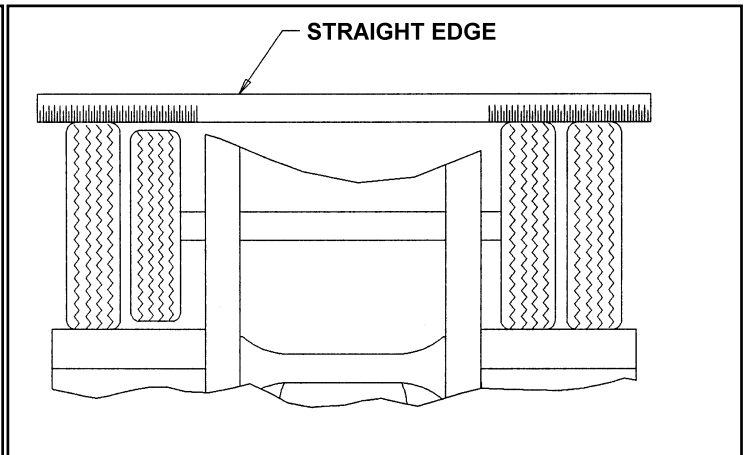

Figure 4-12 Straight Edge Method
b. Straight Edge or String Method: (This method cannot be used if tire and wheel assemblies are not mounted on the axle.) Jack trailer up until the wheels are off of the ground. Hold a straight edge against the tires of both ends of an axle. A gap at one tire indicates a smaller tire. A maximum of 1/8" gap is allowed (**See Figure 4-12**).